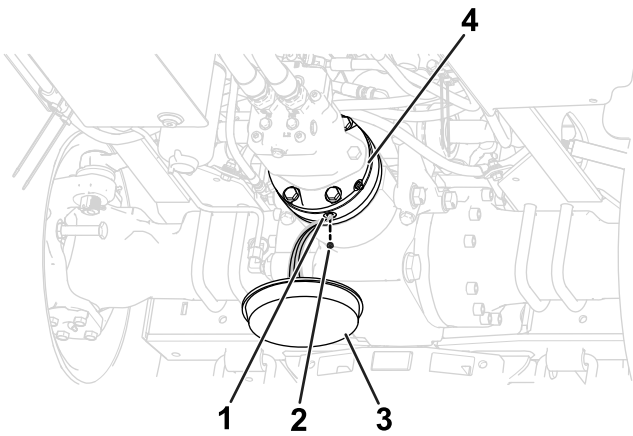

Figure 103
- Place a drain pan under the hydraulic brake (Figure 103).
2. Remove the drain plug from the drain port (Figure 103).
4. Install the drain plug into the drain port (Figure 103).